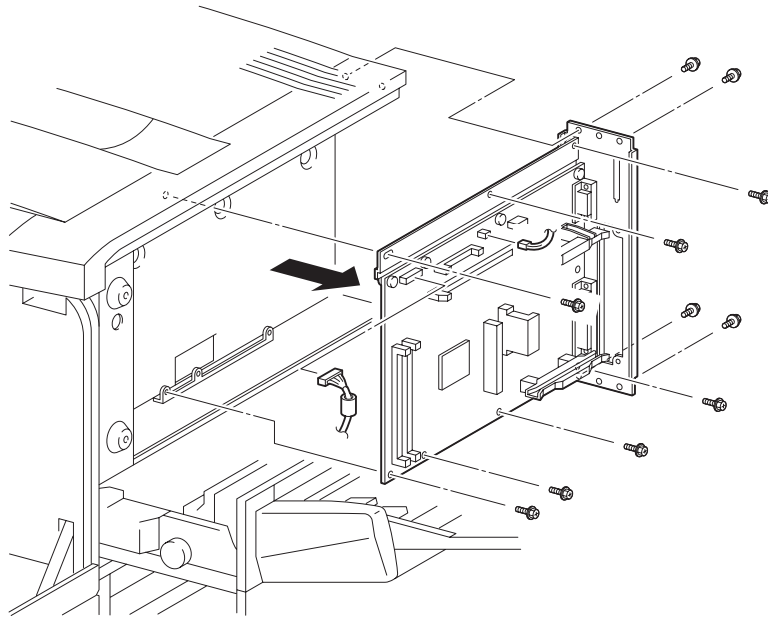

Figure 1
4. Remove the eleven screws securing the Controller PWB to the Controller Chassis and pull the Controller away from the Chassis, disconnecting the Controller from the MCU PWB (Figure 1).
2. Remove the two screws securing the Horizontal Chute to the Fuser Tray and remove the Chute (Figure 1).